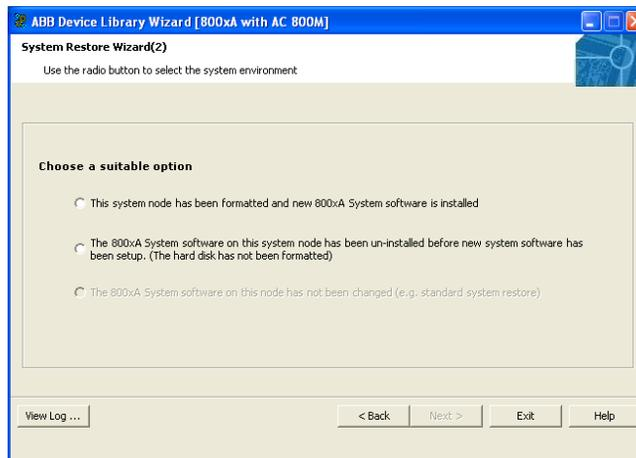

Figure 60. System Restore Wizard (2)
3. Choose whether or not this system node has been reformatted as shown in Figure 60 and click **Next**.
If the system node has not been reformatted (second option in Figure 60), all Device Types that exist in the 800xA System node and need updated are displayed in the **Update** tab (Figure 63).